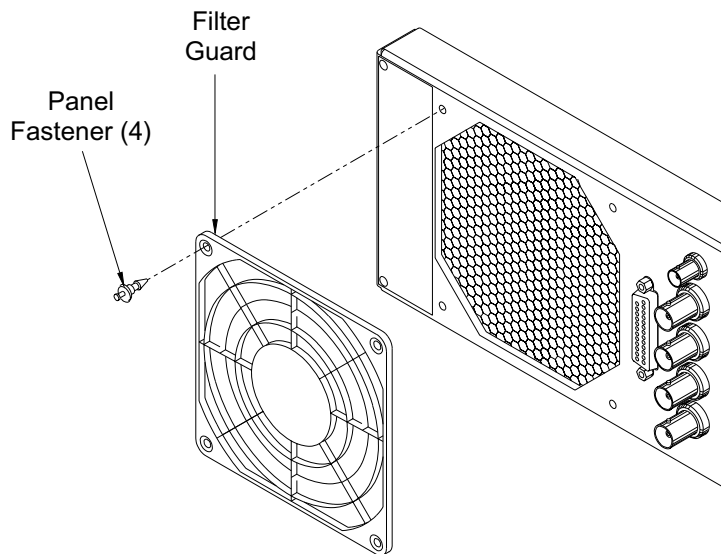

Figure 6-2. Removing/Replacing the Fan Filter
- Step 1** Remove the filter guard from the rear panel by pulling out on the four panel fasteners holding them in place (Figure 6-2).